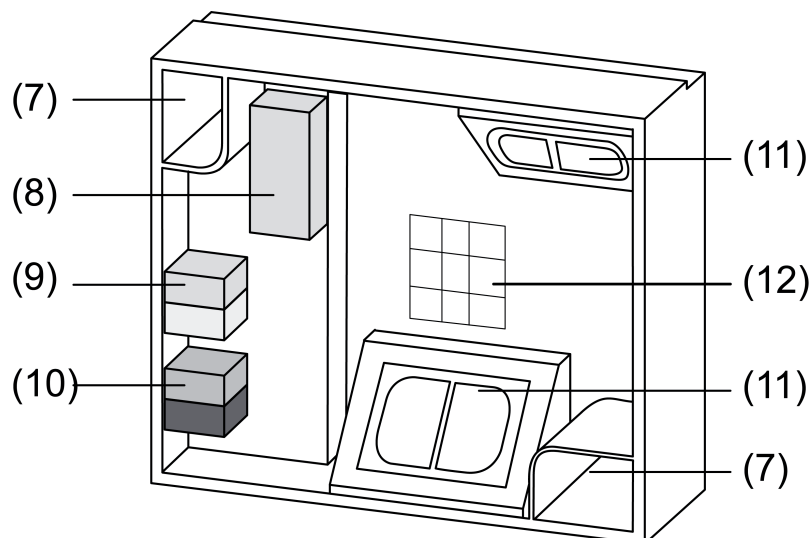

Figure 5: Terminal box opened
- Note physical address on adhesive labels in terminal box (12) and in cover of the terminal box (Figure 5).